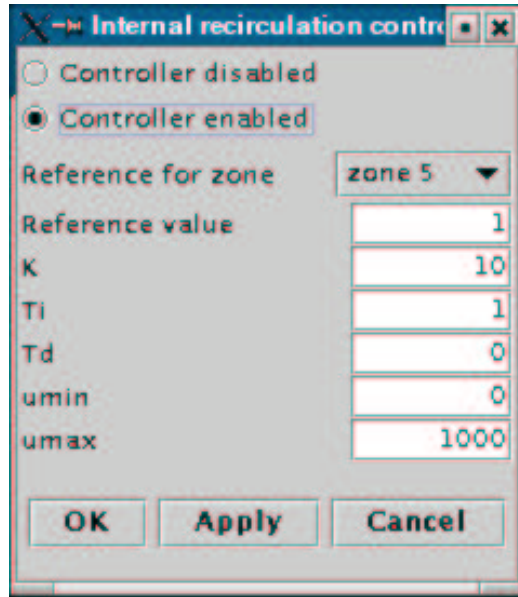

Figure 6: The Internal recirculation controller dialog
28. The internal recirculation controller controls the NO_3^- concentration in the last anoxic zone by changing the internal recirculation flow rate. The controller is a PID controller. By selecting *Internal recirculation controller* in the *Controllers* menu, the dialog shown in Figure 6 is displayed. Here it is possible to set the parameters of the controller.